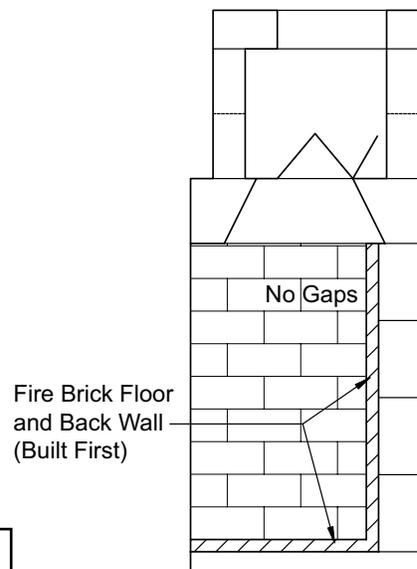

FIGURE 25
4. Next, apply fire brick to the back wall of the unit. The back wall fire brick covers the 1/2" expansion gap left at the brick floor along the back wall of the firebox. (Figure 25)